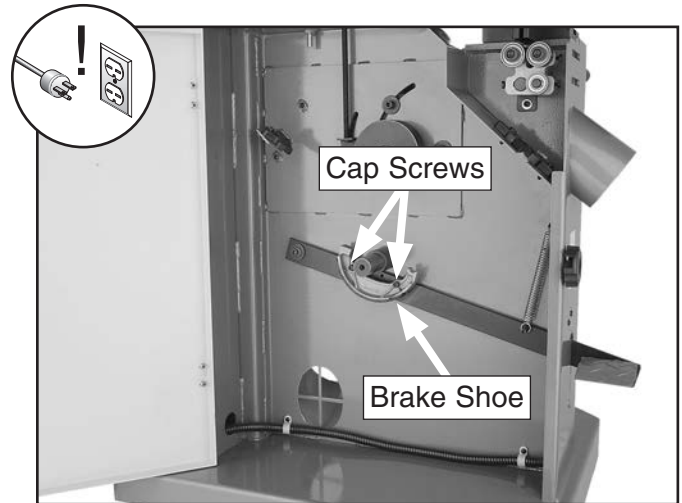

Figure 80. Brake shoe location.
3. Remove the cap screws, lock washers, and bushings that secure the brake shoe to the brake lever, then remove the brake shoe (see **Figure 80**).